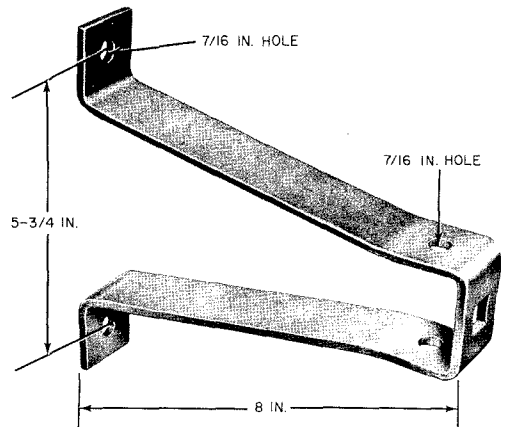

Fig. 7—E Wall Bracket
3.02 E Wall Bracket (Fig. 7): Used in lieu of the D Wall Bracket where more than 2 inches of clearance is required between cable and